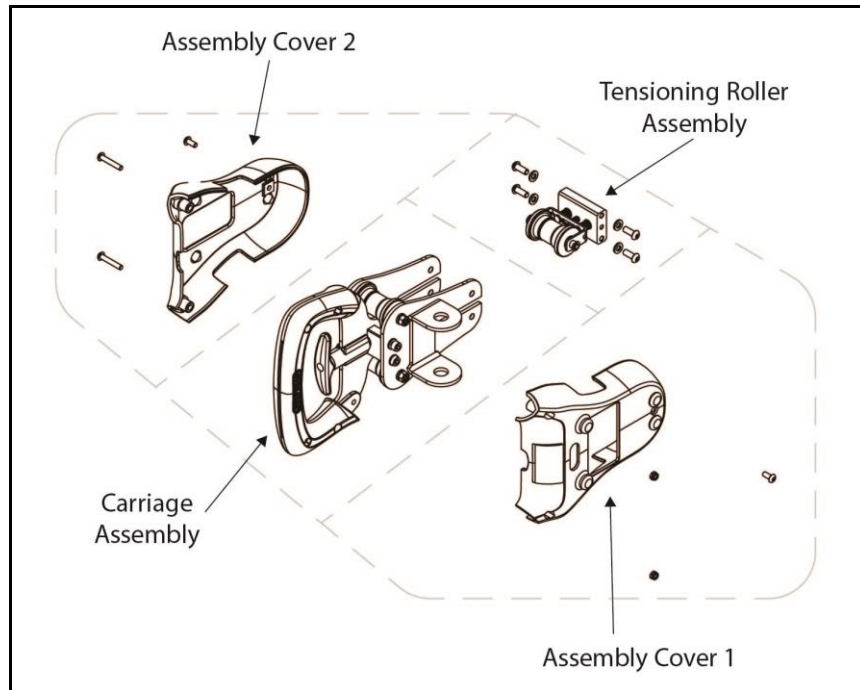

Fig. 7
7. Locate your new carriage assembly and prepare the carriage for mounting by disassembling the prebuilt carriage into four main groups (Fig. 7) accompanied by their corresponding hardware.